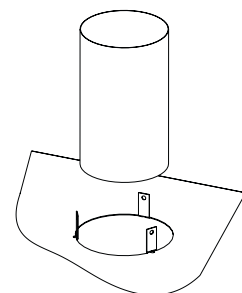

**Figure 10a**
- Using tin snips, cut the three connecting points securing the slug to the three tabs in the flue collar (as shown in **Figure 10a**), and remove the slug.